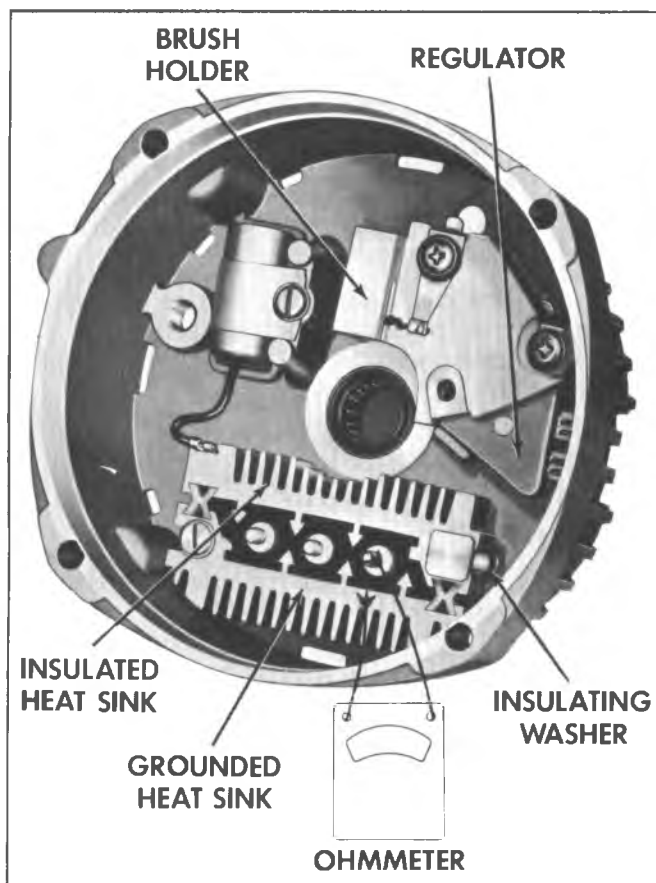

Fig. 6C--Rectifier Bridge Checks
8. Remove retaining screw and capacitor from end of frame (fig. 6C).
Rectifier Bridge Check (fig. 6C)